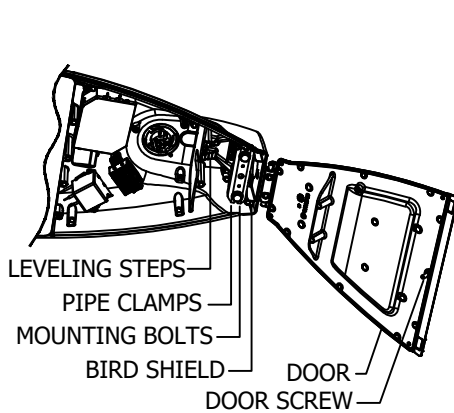

FIGURE 4
- 1. BIRD SHIELDS:** THE BIRD SHIELD BEHIND THE PIPE CLAMP HAS A 1 1/4" (1.660 OD) OPENING. REMOVE SHIELD IF LARGER PIPE IS USED. SEE **FIGURE 4**.
- 2. MOUNTING ARM:** UNFASTEN, OPEN AND REMOVE DOOR FROM HINGE CRADLE. ADJUST PIPE CLAMP OPENING SLIGHTLY LARGER THAN PIPE SIZE. INSERT MOUNTING ARM THROUGH BIRD-SHIELD (IF USED) AND INTO THE LUMINAIRE UNTIL IT HITS THE LEVELING-STEPS EXTENDING FROM TOP OF HOUSING. SEE **FIGURE 4**.
- IF DOWNWARD TILT IS NEEDED, EXTRACT THE MOUNTING ARM FROM LUMINAIRE TO SIT ON THE REARWARD STEPS. SEE **FIGURE 4**.